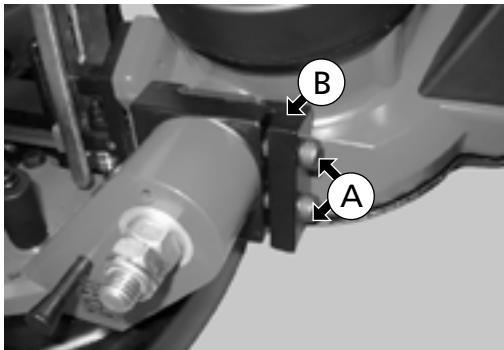
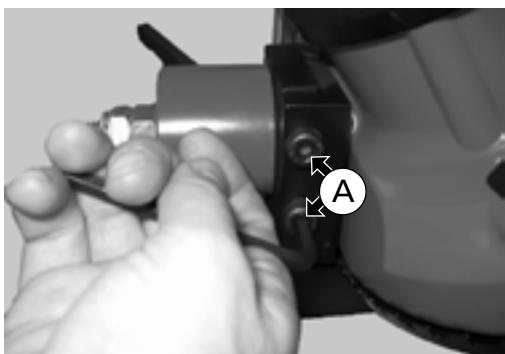

Fig. 34
Fig. 33
Loosen the two screws (A) up to three or four complete turns (Fig. 33) in order to free up the end stop of the band saw (Fig. 34).
Elements on Fig. 33 - 34